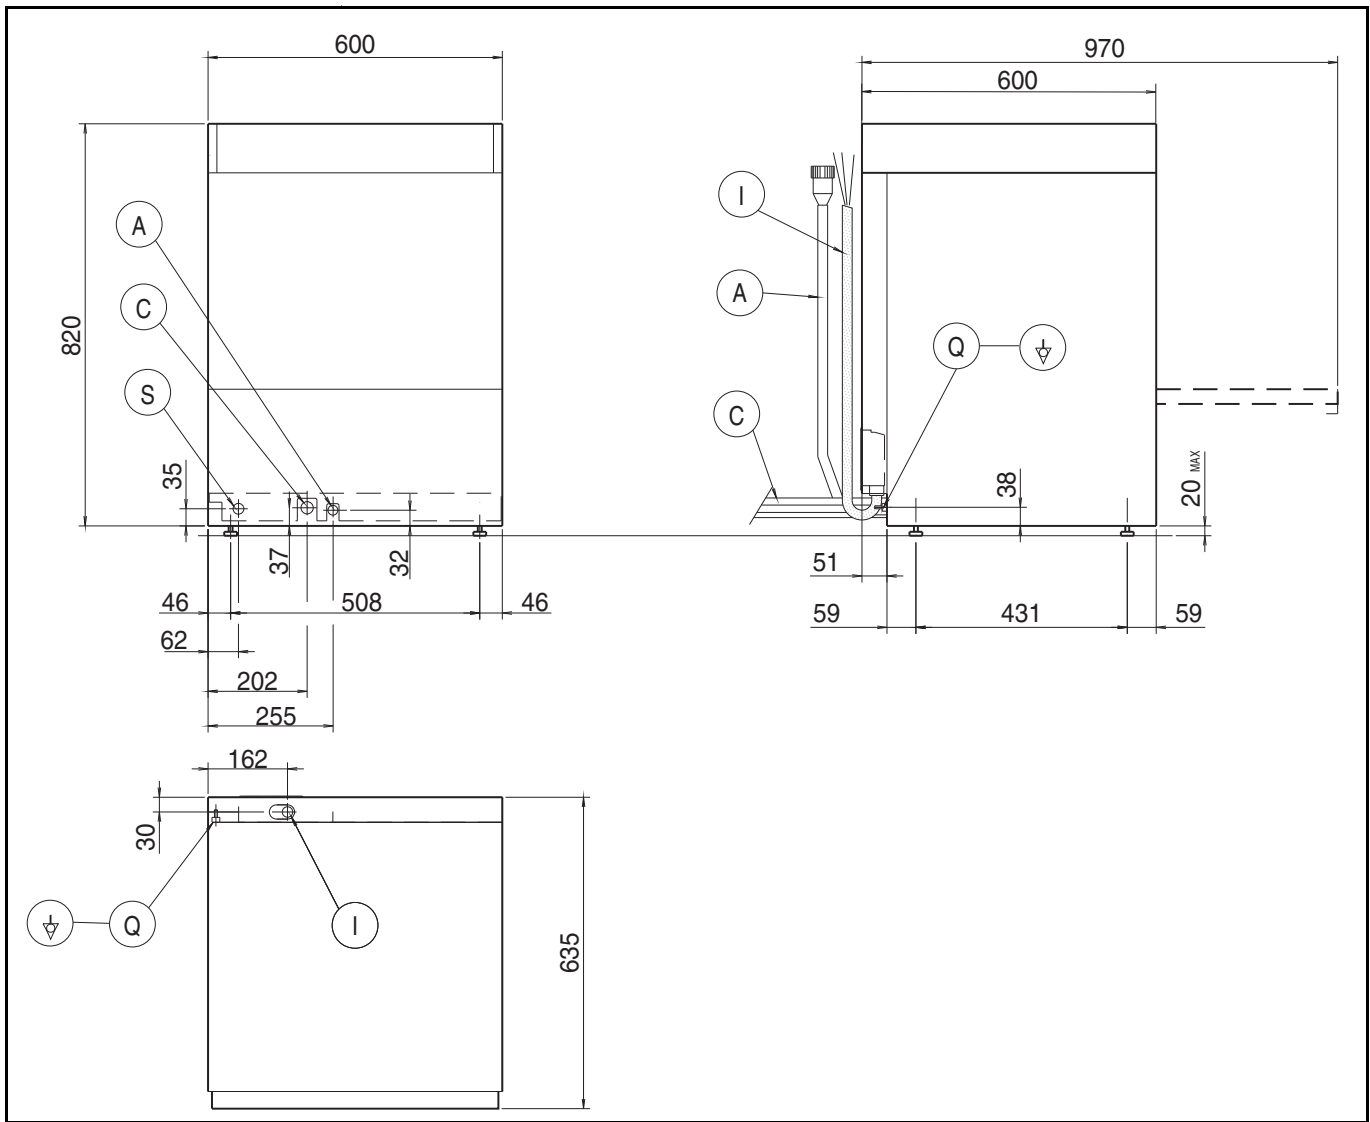
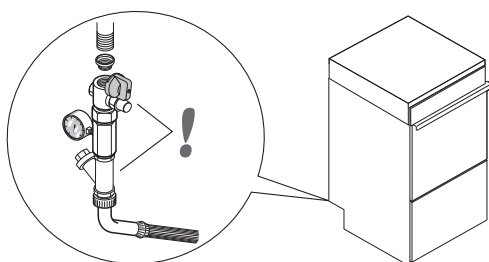

Figure 4
Figure 6
Legend Figure 4
- Connect the appliance water supply pipe “A” (Figure 4) to the mains, fitting a cut-off cock, the filter provided and a pressure gauge between the appliance and the mains (Figure 6).
- **On the model with free-fall drainage:** connect the waste outlet pipe “C” (Figure 4) to the main drain pipe, fitting a trap, or place the outlet pipe over an S trap set into the floor.
- Connect the earth wire of the power supply cable to an efficient earth clamp. The appliance must also be included in a unipotential system, the connection being made through the screw “Q” (Figure 4) marked with the symbol “⚡”. The unipotential wire must have a cross section of 10 mm².